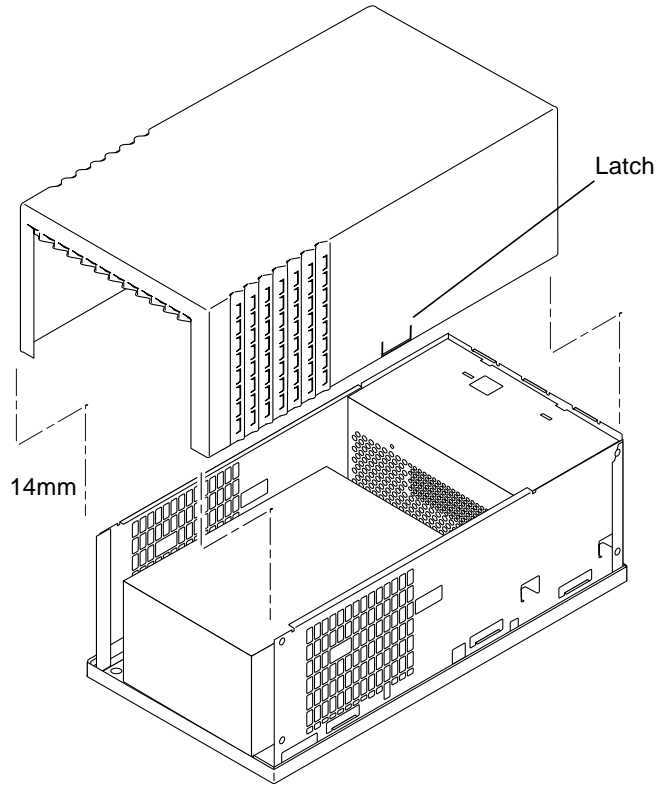

FIGURE 2-1 Removing or Replacing the Cover of a Full-Height Unit
- 3. Press in the latches at the sides of the cover and slide the cover forward until it stops, about 14 mm (FIGURE 2-1).**